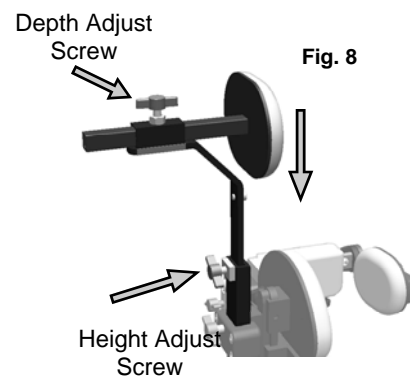

Fig. 8
- Insert the Headpad into the extension tube with pad facing forward - tighten height and depth adjustment screws (fig. 8).